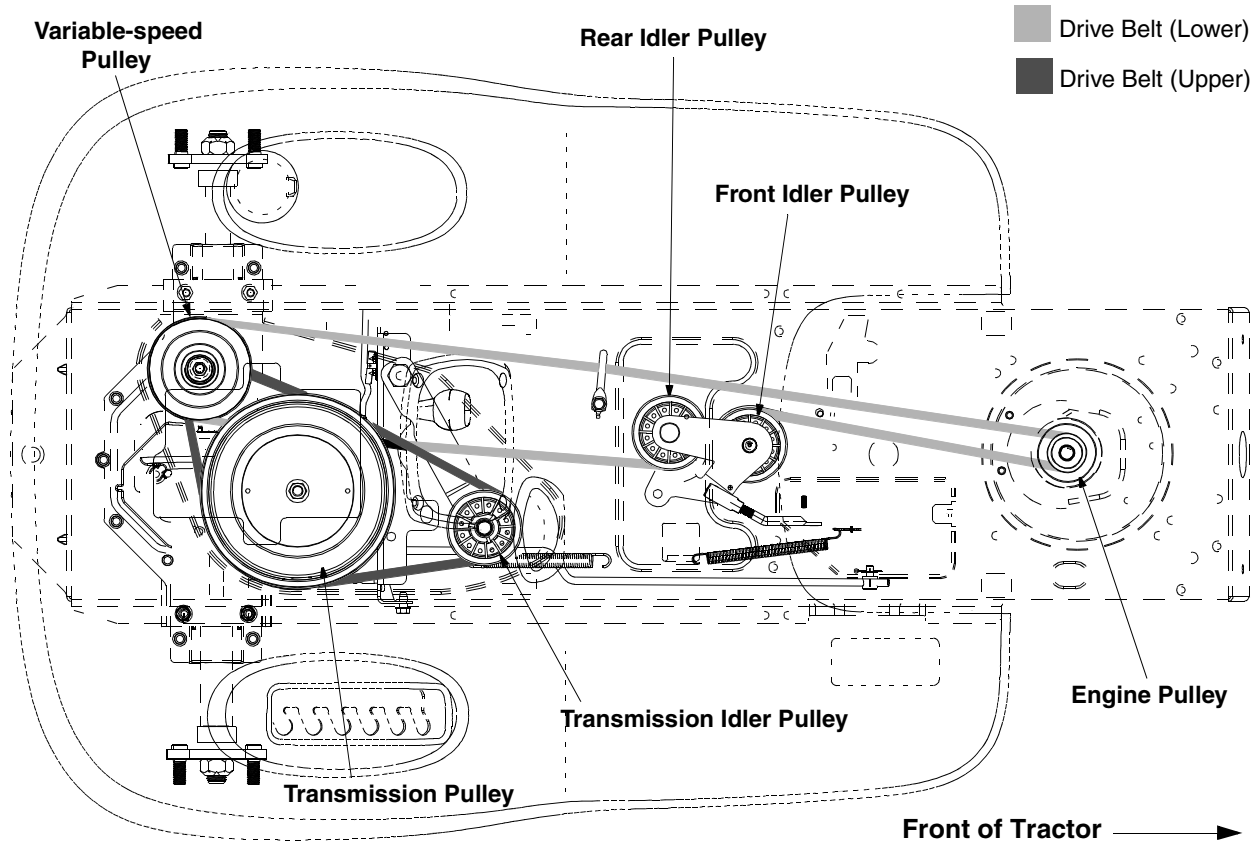

Figure 16
- Locate the transmission idler pulley on the upper drive belt by looking through the battery tray opening. See Figure 16.
- Reroute the new upper drive belt as shown in Figure 16.
- Locate the variable-speed pulley through the battery tray opening. See Figure 16.
- Remove rear idler pulley from the double-idler bracket while loosening the belt from around both the rear and the front idler pulleys. See Figure 16.
- Reroute the new belt around the pulleys, belt keepers and keeper pins exactly as the old one was routed. Refer to Figure 16.